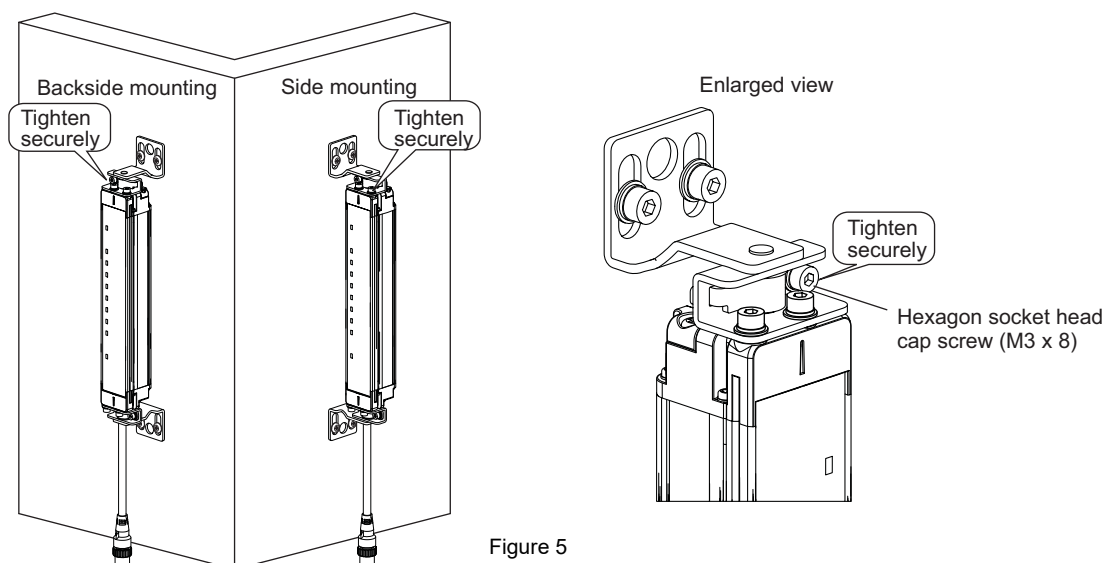

Figure 5
4. Tighten the lightly tightened hexagon socket head cap screws (M3 x 6) of the Top/Bottom Brackets. (Figure 5)